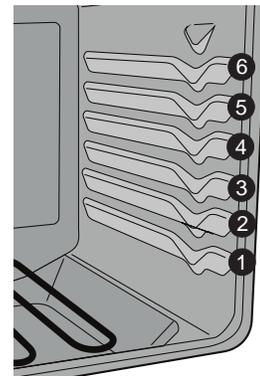

Figure 22: Rack positions for visible bake and hidden bake elements
- For best results when baking cakes using two oven racks, place racks in positions 3 and 5 (See Figure 22).